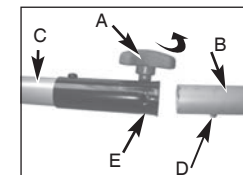

Fig. 3A
1. Turn the knob (A) counter clockwise to loosen (Fig. 3A).